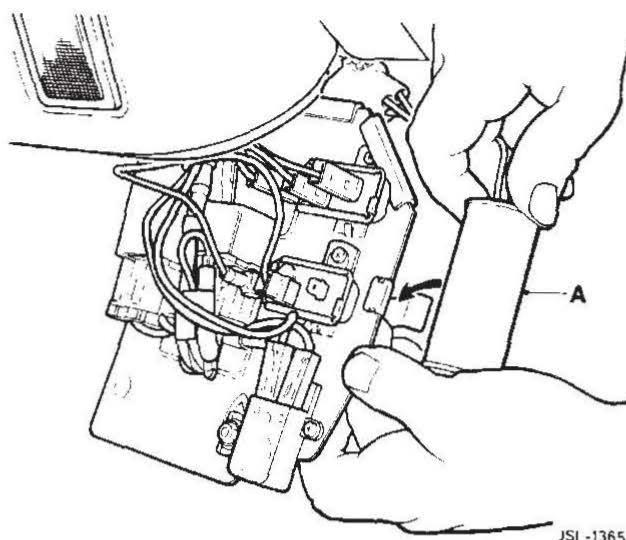

FIG 1
blower motor assembly and displace the panel from the fixing studs. Locate the low coolant control unit on the reverse side of the panel, see Fig 1 (A); remove from the mounting clip and disconnect the harness multiplug:-